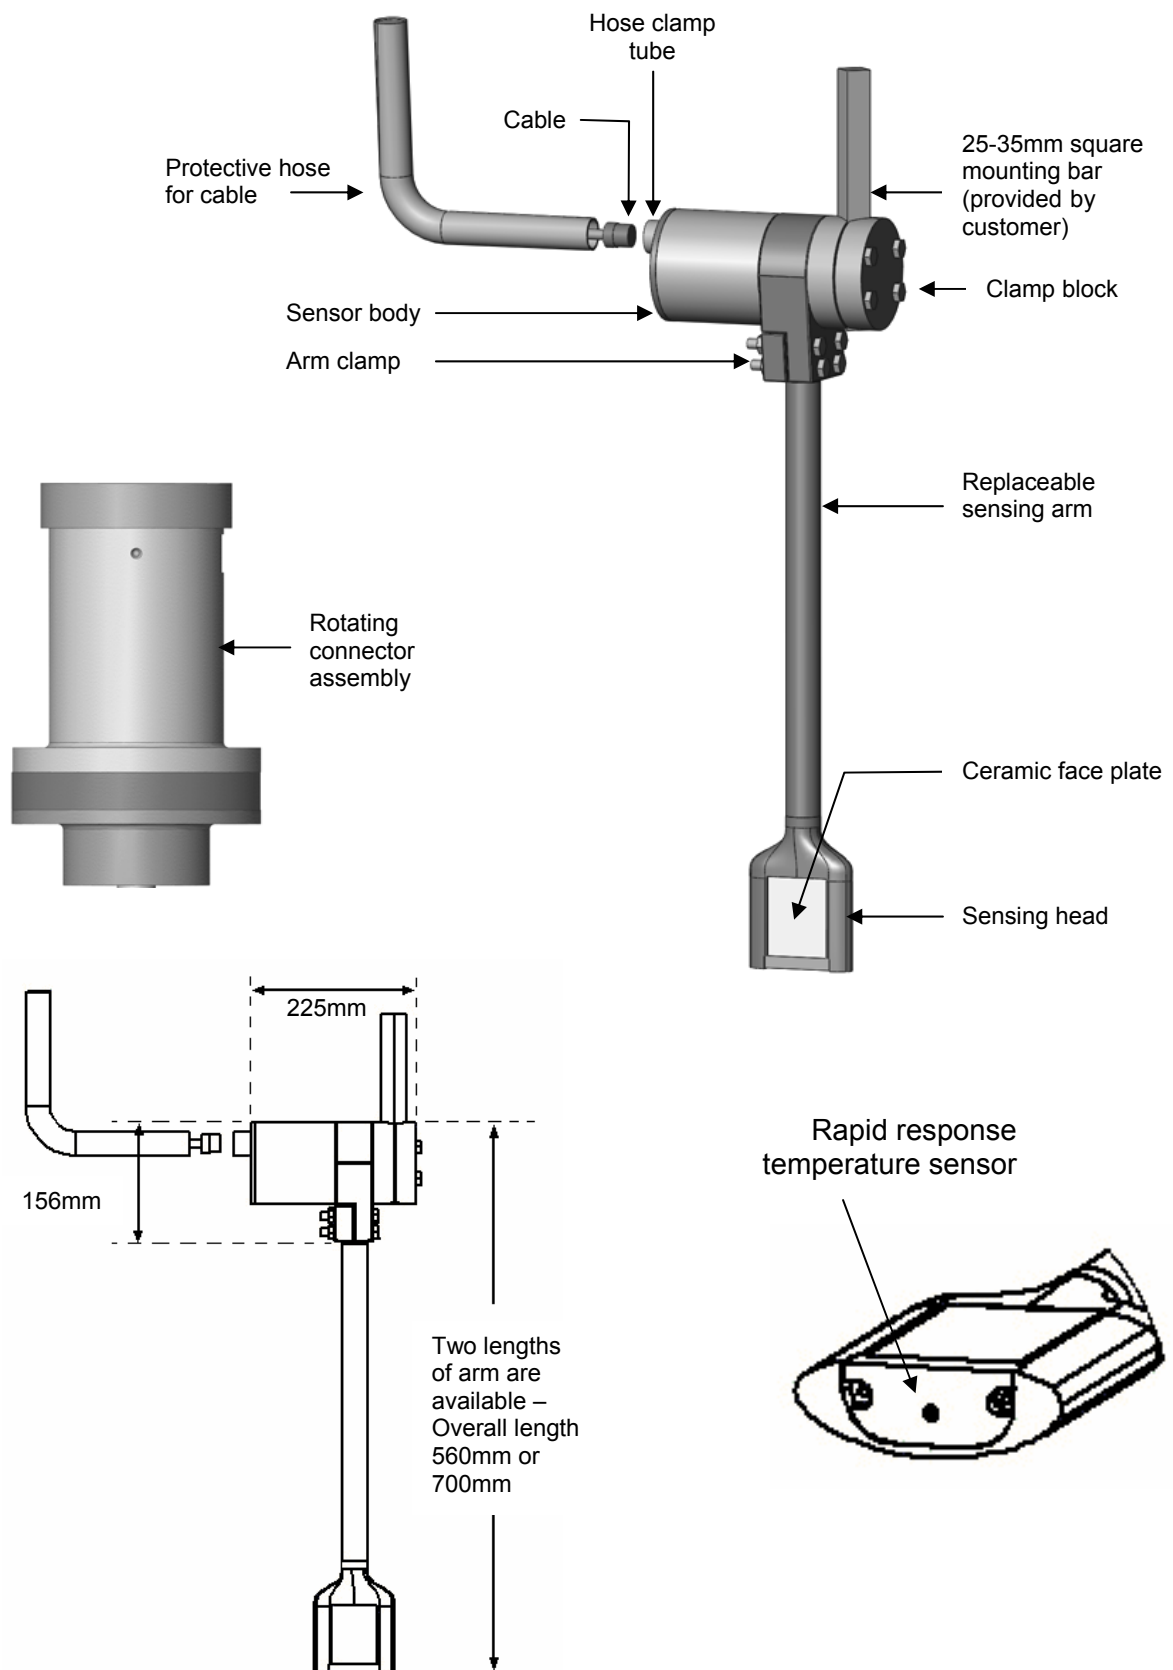
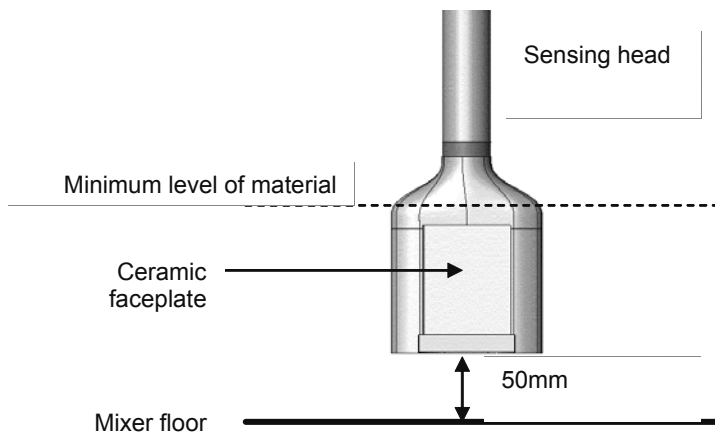

Figure 1 - The Hydro-Probe Orbiter with rotating connector
Figure 8 - Height setting of the sensing arm
The Hydro-Probe Orbiter is available in various lengths. Standard lengths are 560mm or 700mm, note that this length refers to the overall height of the Hydro-Probe Orbiter, as shown in Figure 1. **Other lengths can be made to order.**
- The sensing arms are available in 2 lengths (Figure 1) and the sensor should be mounted such that there is a 50mm gap between the underside of the sensing head and the mixer floor (Figure 8).
The recommended height for typical applications is 50mm above the floor of the mixer (Figure 8). This height can be set using the angle aligner, which has a width of 50mm.